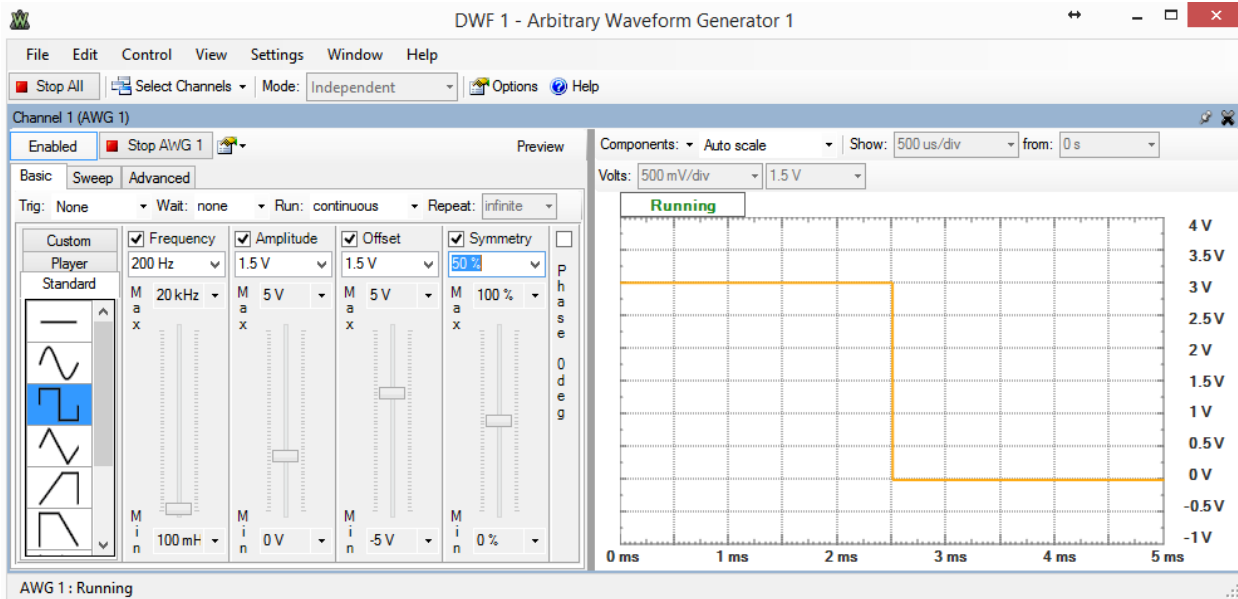

Figure B-3
- Set the duty cycle back to 50%. Turn off the function generator. Now adjust the frequency to 200Hz (see Figure B-3 below). Describe what you see now. Again vary the duty cycle from 0% to 100% in steps of 10% and describe what you see. While you are varying the duty cycle, measure the voltage that is being produced by the function generator using a DC Voltmeter (the cheap \$3 meter from Harbor Freight will work just fine. Record the measurement for each duty cycle. _____(TA/Inst)